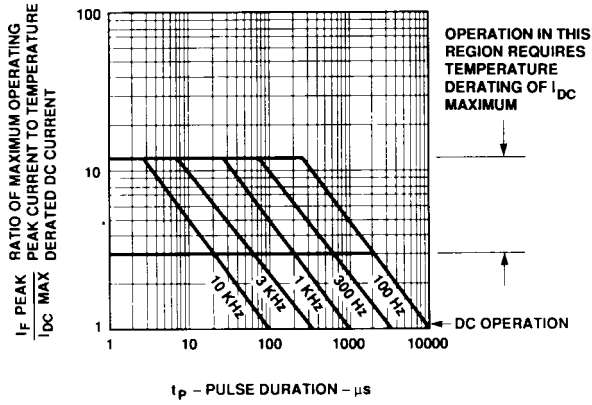

Figure 8. Allowable Peak Current vs. Pulse Duration - Green Series.
- See Figure 8 to establish pulsed conditions.